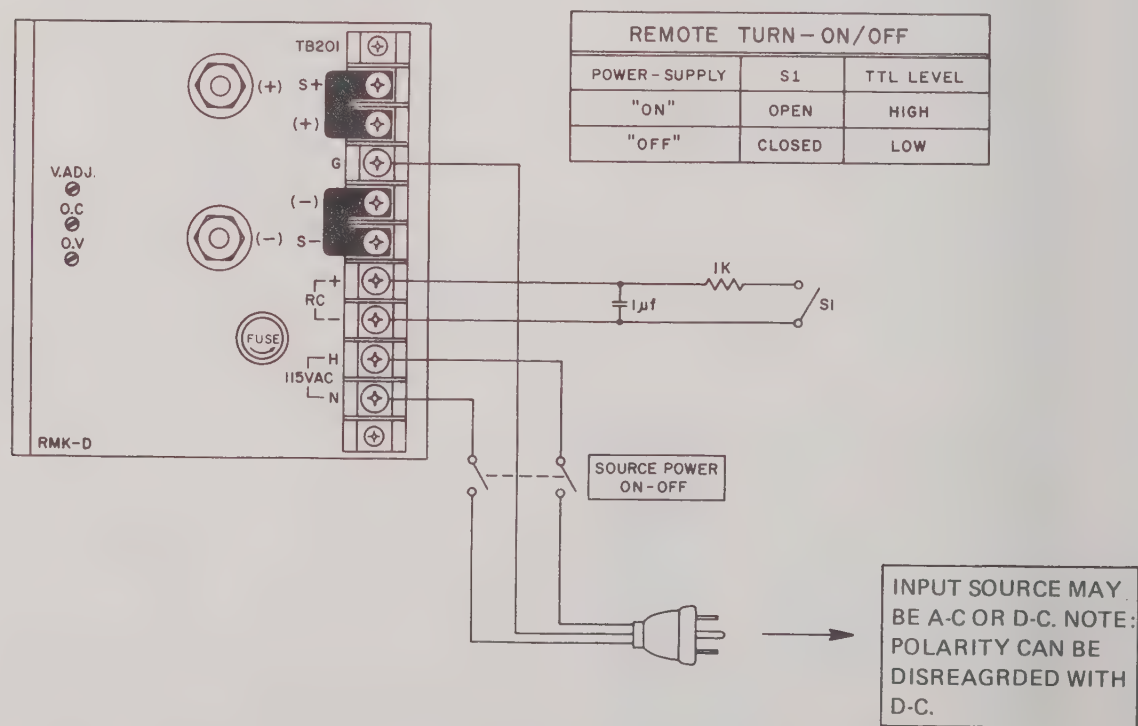

FIG. 2-2 CONVENTIONAL AND REMOTE SOURCE POWER TURN-ON/TURN-OFF.
- 2-6 Source input power to the power supply is applied in the conventional manner by means of an external power switch in series with one or both of the source input terminals, (see FIG. 2-2).
- 2-7 Following source turn-on, for systems applications the power supply can be remotely programmed "on" and "off" by means of a contact closure, or TTL logic levels. This permits turn-on/off sequencing and avoids a-c surge currents associated with conventional a-c power turn-on/off cycles. In FIG. 2-2, both the conventional and the remote a-c power turn-on/turn-off methods are shown:
- B) If the remote control method is used, retain the SOURCE POWER switch. NOTE: Source power turn-on/turn-off must be retained since the overvoltage protector circuit is re-activated, following an overvoltage condition, by removing (5 seconds minimum) and re-applying the power. Either the indicated switch (S1) or TTL levels may be used for remote control as indicated in the table of FIG. 2-2. The switch (S1) must be "chatter-free", or the indicated components should be used to integrate the switching pulse.